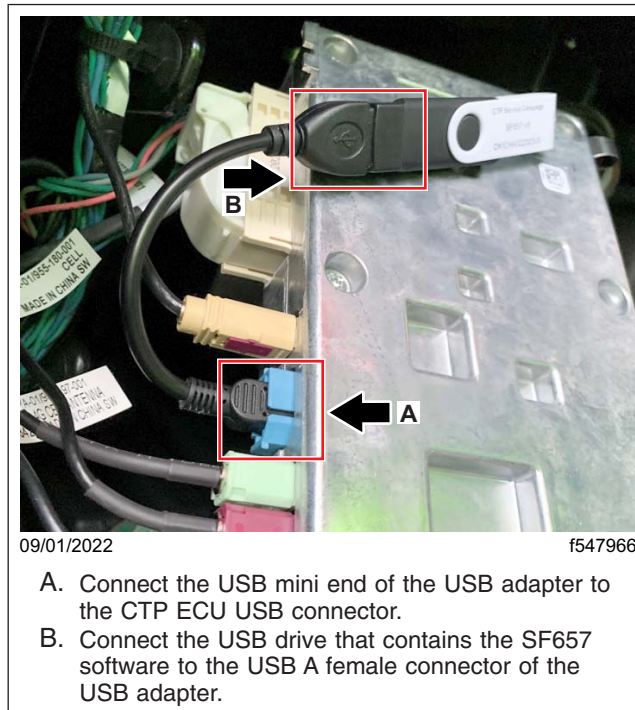

Fig. 11, USB Drive Connected to the CTP
14. Locate the CTP on the upper shelf in the electronics bay. Using a USB mini to USB A adapter (DKICHA022003-1), connect the USB drive (DKICHA022003-3) containing the SF657 software to the CTP at the large blue USB mini connector. See Fig. 11. Some vehicles may already have a harness connected at the large blue CTP connector, which must be disconnected for this procedure. Make sure the USB adapter and the USB stick are completely inserted.